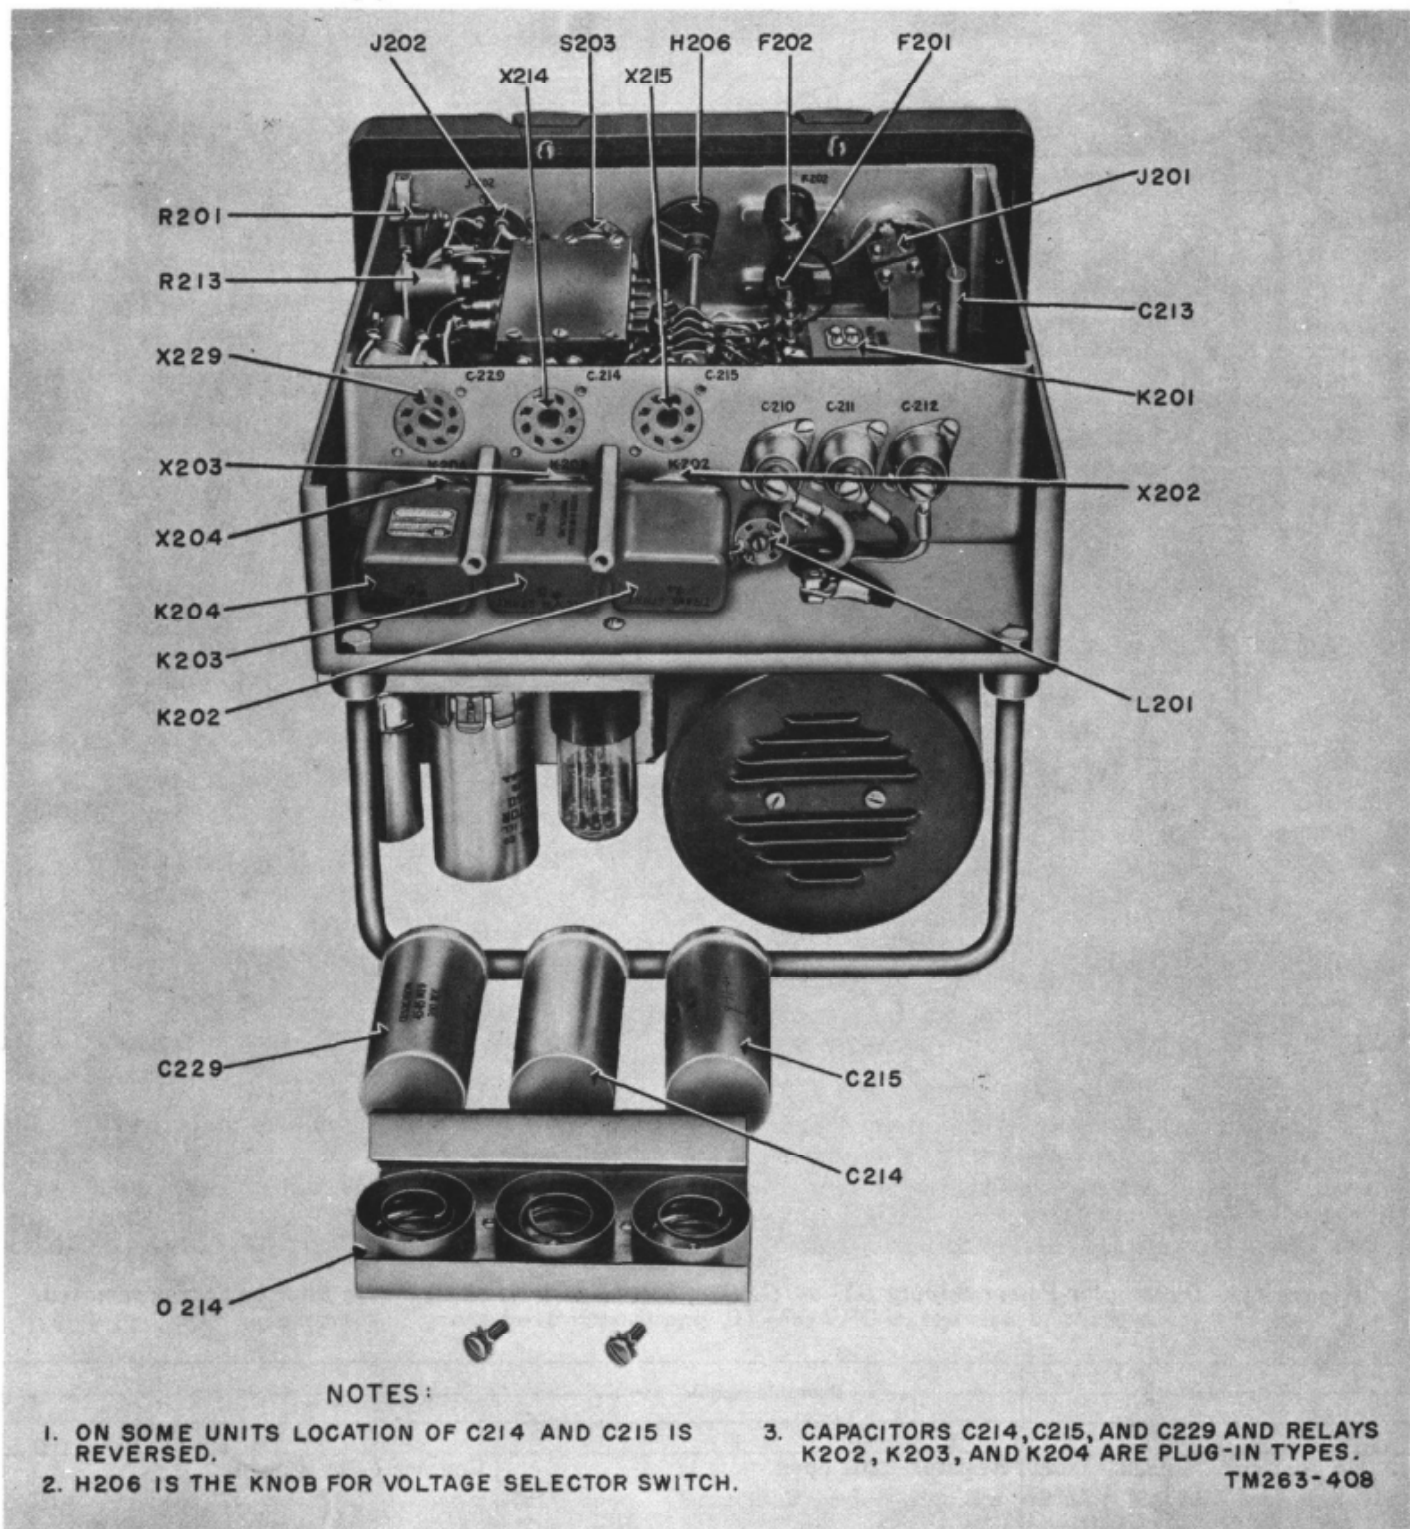

Figure 143. Dynamotor-Power Supply DY-88/GRC-9, rear view of chassis showing location of relays.
d. Capacitors C214, C215, and C229 (fig. 142) and relays K202, K203, and K204 (fig. 143) are located on the under side of the chassis, toward the rear of the unit. To reach the capacitors and relays, first remove the two screws holding bracket 0214 to the unit. Re-
To troubleshoot the dynamotor power supply, remove the power supply from the case. Connect the power supply to a radio set known to be good. Set voltage selector switch control H206 (fig. 143) to the proper setting corresponding to the voltage of the battery to be used. Check the DYN. FUSE. Be sure it corresponds to the voltage of the battery to be used (par. 37b(6)). Note that the terminals on output receptacle J202 are numbered. Use these terminals to check the output voltage of the dynamotor power supply.